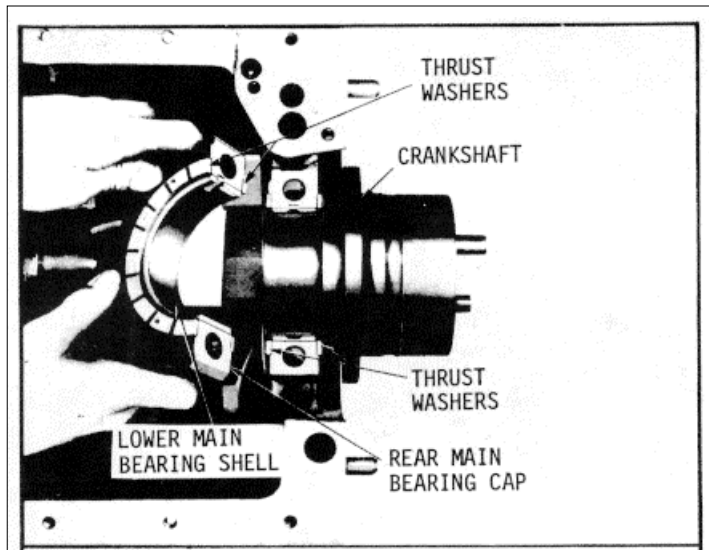

Fig. 8. Crankshaft Thrust Washers in Place
- (1) When installing an upper main bearing shell with the crankshaft in place, start the plain end of the bearing shell around the crankshaft journal so that, when the bearing is in place, the tang will fit into the groove in the bearing support.
- (2) Install the lower main bearing shell so that the tang on the bearing fits into the groove in the bearing cap.
- (3) Assemble the crankshaft thrust washers (Fig. 8) before installing the rear main bearing cap. Clean both halves of each thrust washer carefully and remove any burrs from the washer seats - the slightest burr or particle of dirt may decrease the clearance between the washers and the crankshaft beyond the specified limit. Slide the upper halves of the thrust washers into place. Then assemble the lower halves over the dowel pins in the bearing cap.